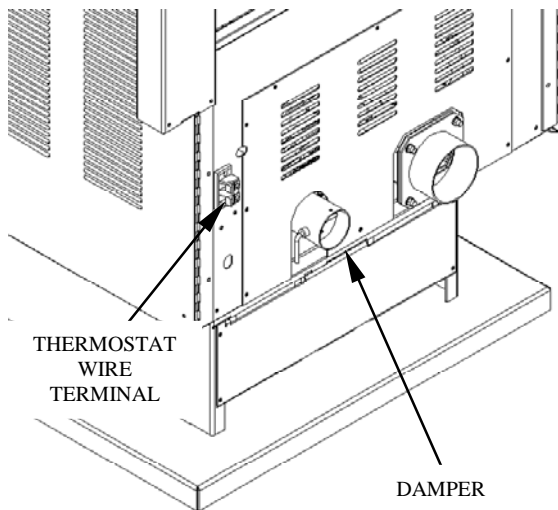

Figure 3
**Your stove is equipped with an air inlet damper. (See Figure 3) This is one of the most important areas of setting up your stove to burn corn.**
**Thermostat Control** - Most corn stoves aren't capable of using a thermostat. This is due to the fact that corn doesn't react very well to sudden increases in the feed rate. A stove that goes from a #1 setting to a #5 setting will almost always have problems making that transition. The burn pot will overload and the fire will go out. The St. Croix corn stove uses a simple time delay between each Heat setting to allow the stove to react to the increase in corn. This allows the stove to function very well on a thermostat. A Milivolt type thermostat will work with this control board. **The stove is not fully automatic when running on a thermostat, when the thermostat is not calling for heat the stove will drop to the low (#1) setting as a pilot.** For location to connect the thermostat wires see Figure 3 on page 9.